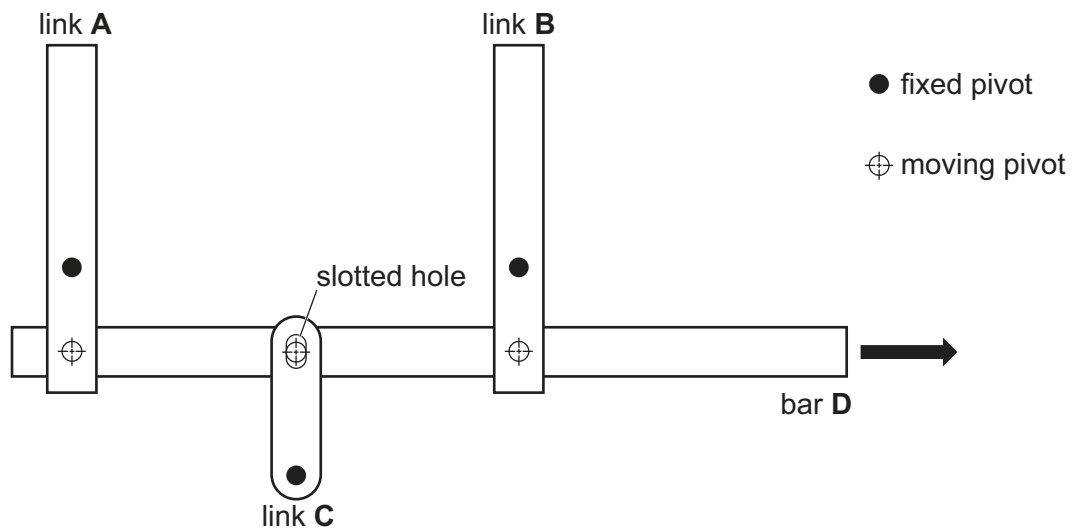

Figure 6.1
- 6 Figure 6.1 shows a linkage with three fixed pivots and three moving pivots.